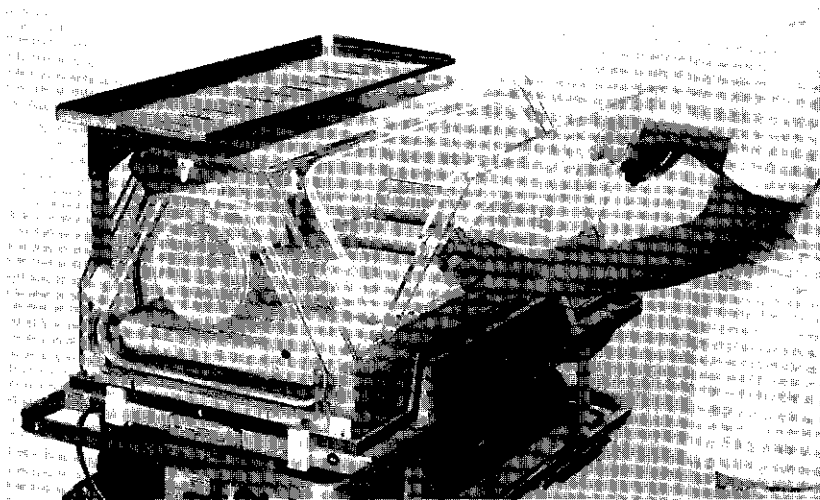

FIGURE 2.7 ACCESS PANEL OPERATION
1. CHECK FRONT AND HEAD END ACCESS PANELS. Rotate access panel latches (Figure 2.7) and open the access panel. Pivot the access panel to the full open position (hanging straight down).